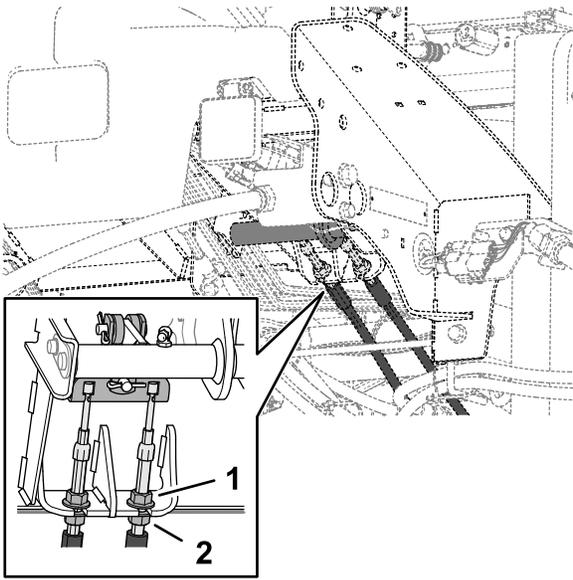

Figure 114
5. To reduce brake pedal-free travel, loosen the front jam nuts on the threaded end of each brake cable (Figure 114).